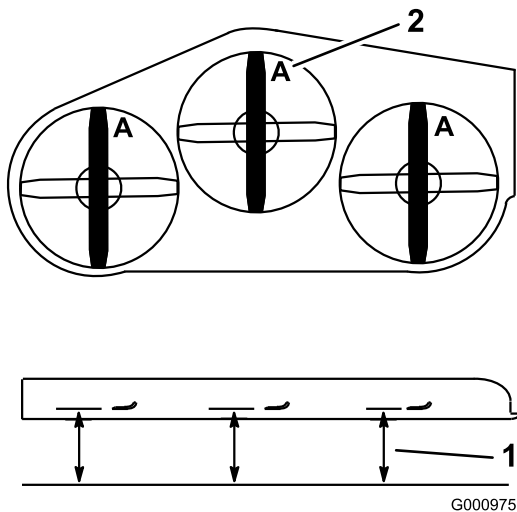

Figure 93
3. Rotate the blades until the ends face forward and backward (Figure 93). Measure from a level surface to the cutting edge, position **A**, of the blades (Figure 93). Note this dimension.